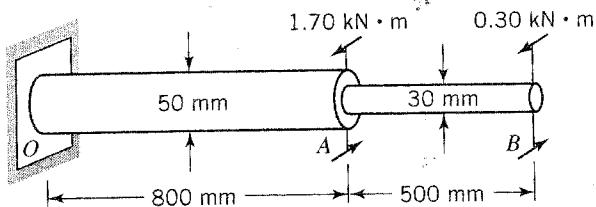

FIGURE P6.6
6.6. The torsion member shown in Figure P6.6 is made of structural steel with a shear yield strength of $\tau_y = 160 \text{ MPa}$ and is subjected to two torsional moments.